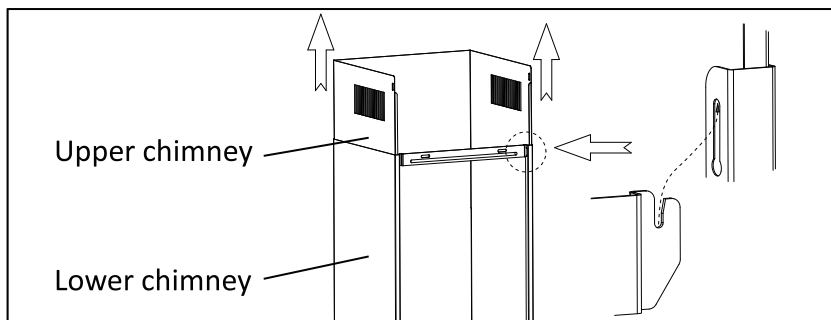

Fig.8
- Sliding the chimney to adjust the chimney height. When the height you required is reached, then hang the fixing hole to the fixing screws as showed in below pictures. (Fig.8)